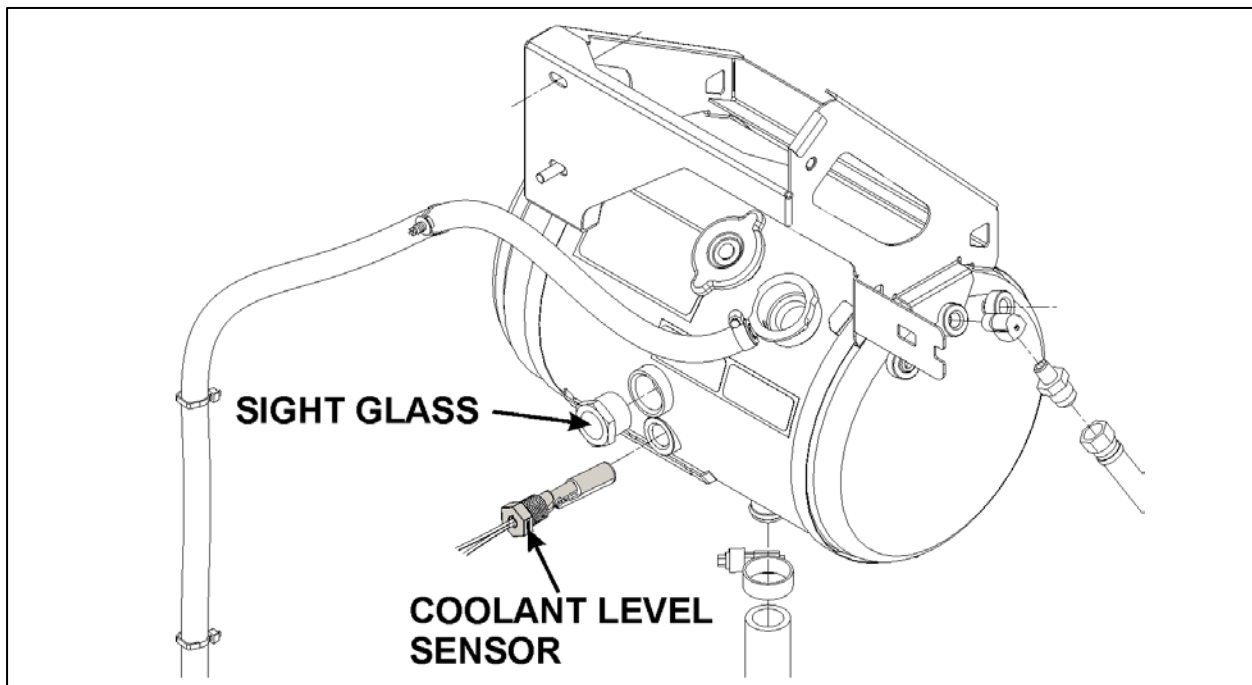

Figure 1 X-SERIES surge tank arrangement
- 1) Depending on vehicle Series, refer to figure 1 or 2.
- 5) Remove the coolant level sensor.(Fig. 1 or 2)